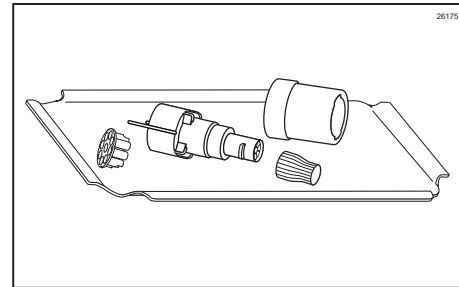

Figure 75
27. Remove the Syrup Line Manifold, Manifold cap, the Duckbill Check Valve, and Coupler Body from the sanitizer solution and place on a sanitary tray to air dry. (See Figure 75.)